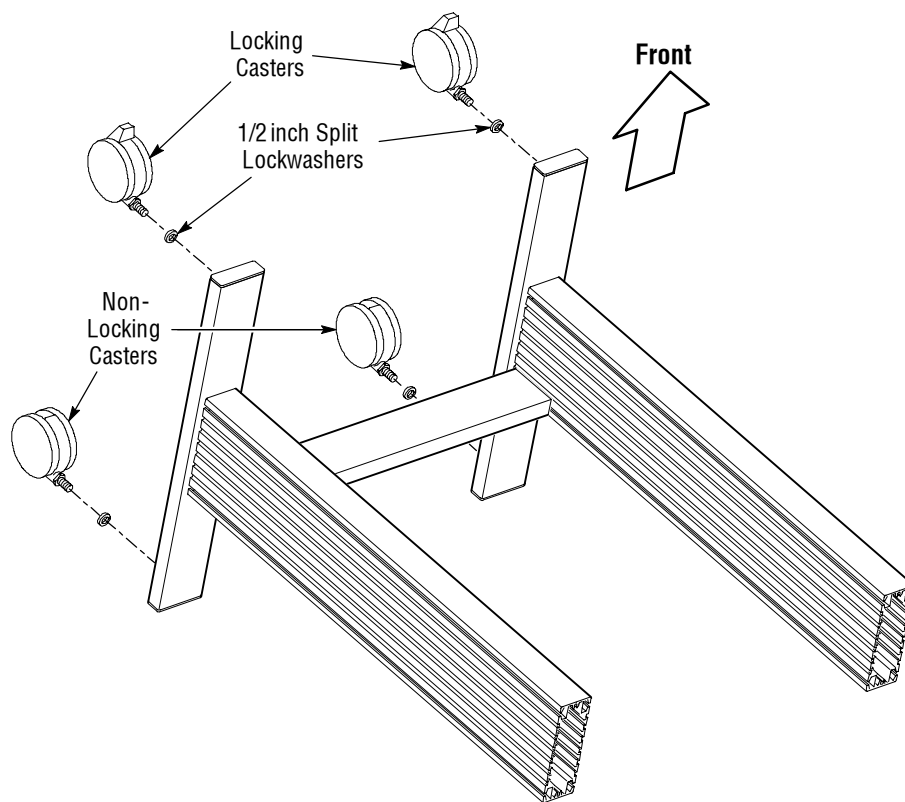

Figure 5: Installing the Casters
6. Tip the cart onto its back as shown in Figure 5, resting it on the work surface by the tops and backs of the leg assemblies.